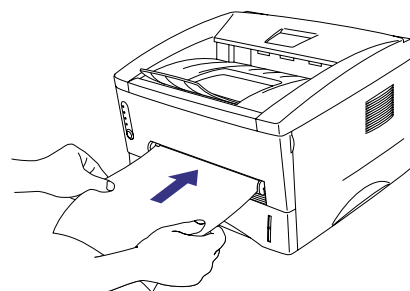

Fig. 2-7
- (3) Insert the paper into the manual feed slot with both hands until the front edge of the paper touches the paper feed roller.
- (4) Hold the paper in this position until the printer feeds the paper a short distance, then let go of the paper. (Fig. 2-7)